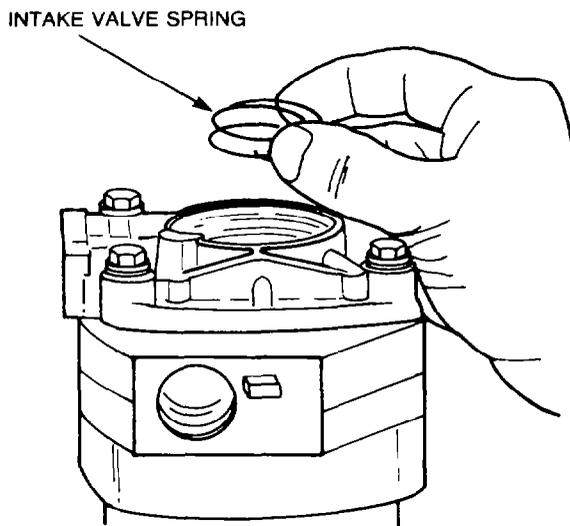

Figure 232 — Intake Seat, Valve and Spring — Removal
- h. Remove the intake valve seat, intake valve and the intake valve spring from the cylinder head (see Fig. 232).